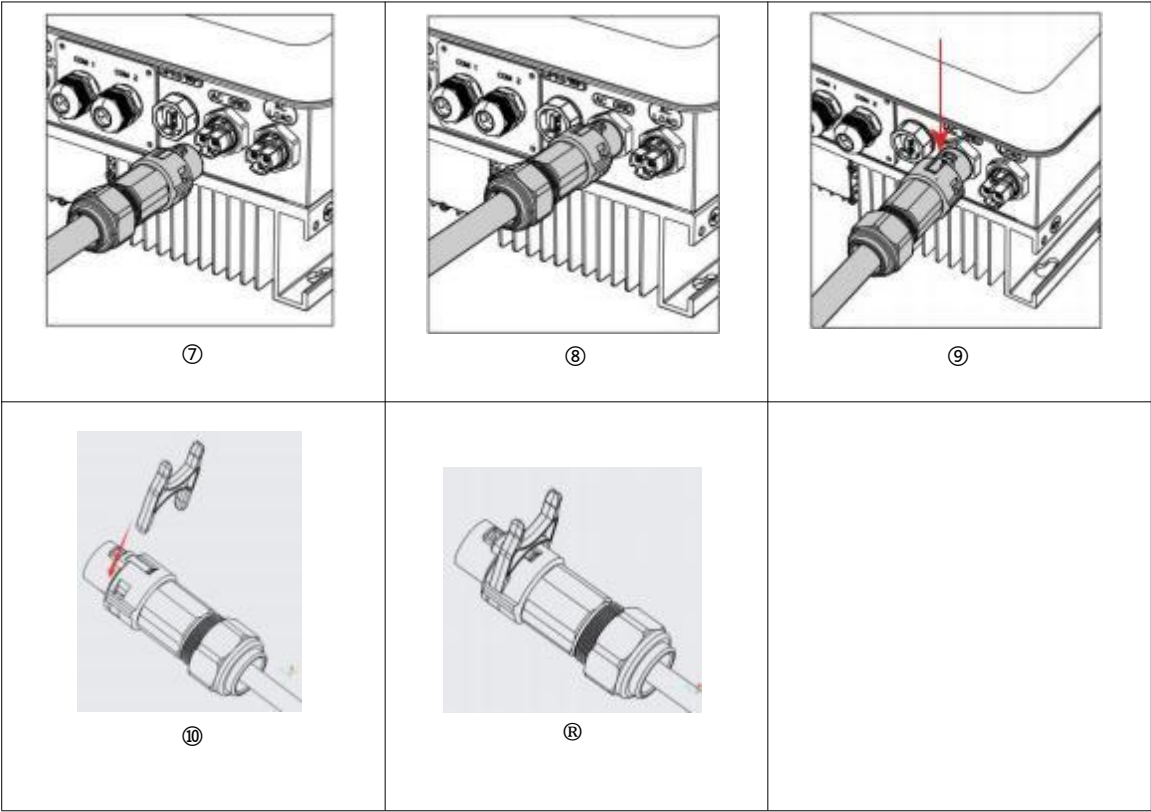

Figure 13: Connection of AC output cable
- Step 1: Select the appropriate type and specification of cable according to Table 4-3, and then strip the cable; the specific stripping length shall refer to Figure 13 ①; A: 30~50mm
- Step 2: Disassemble the AC terminal as shown in Figure 13 ②, and pass the stripped cable through the waterproof locking nut;
- Step 3: Lock the cable into the locking hole on the terminal as indicated, and fastened with a hexagon socket screwdriver, as shown in Figure 13 ③④;
- Step 4: Insert the output terminal, and when the "click" sound is heard, tighten the waterproof nut clockwise, as shown in Figure 13 ⑤⑥, to ensure that the cable is securely connected;
If it is required to remove the terminal from the equipment, it can be pulled out by a tool inserted in the direction as indicated by the arrow. The same tool can be used to remove the terminal, as shown in Figure 13 ⑩⑪.